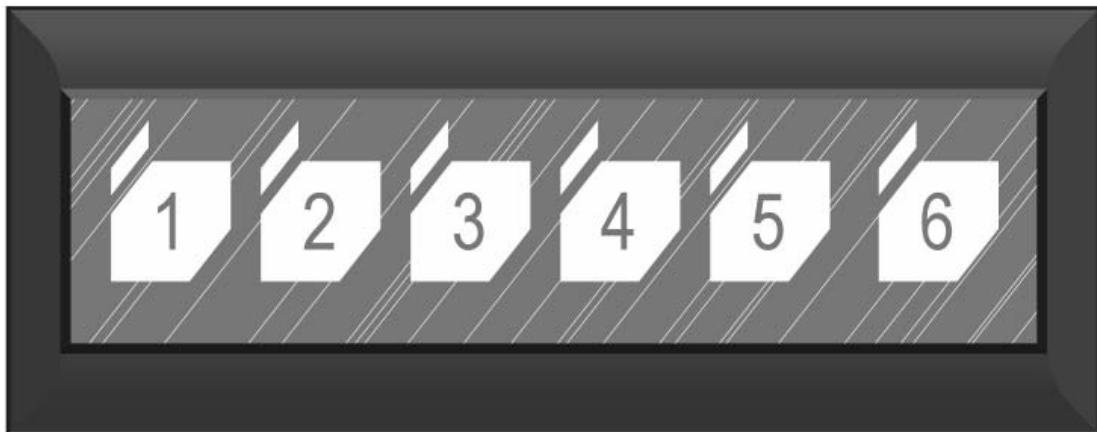

Figure 1
If all the LEDs on the keypad are illuminated, the automatic coffee machine is on standby (i.e. nothing is being dispensed). On pressing one of the four portion buttons (Figure 1, buttons Nos. 1 - 4), both the output valve and the pump are energised. The LED corresponding to the portion selected is illuminated throughout the entire dispensing period. The portion selected is displayed on the LCD. Dispensing is automatically stopped once the pre-defined quantity has been supplied, or the process can be interrupted manually by pressing any of the portioning buttons (Figure 1) of the particular station.
If the automatic coffee machine is on standby, the unportioned dispensing of coffee can be started by pressing button No. 5 (Figure 1). The LED on the relevant button is illuminated for the entire dispensing period.
Tea can be dispensed starting from standby mode or simultaneously with the dispensing of a portion of coffee. The time period over which the electric valve is active is programmable. Throughout the entire tea dispensing process, the LED of the relevant button is illuminated. Dispensing can be stopped at any time by pressing the Tea button (Figure 1, button No. 6) on the dispensing station. If the automatic machine has been programmed to have two tea dispensers, one dispensing device is controlled via the keypad of the first station and the other via the keypad of the second or third station.
You can clean the coffee stations by using the cleaning cycle. This can take place individually for all the stations on the machine. To switch on the cleaning cycle for one of the stations on the machine, all you need to do is press buttons Nos. 1 and 5 (Figure 1) simultaneously on the appropriate keypad whilst the station is in standby mode. The electric valve of the selected station and the pump will be switched on simultaneously and 5 cycles will be run (7 seconds on, 3 seconds off). Station cleaning can be interrupted at any time by pressing any button (Figure 1) of the station being cleaned.
To call up the menu displaying quantity dispensed/litres, you must press button No. 5 (Figure 1) on the keypad of station 1 for at least 10 seconds. In the mode to display quantity dispensed/litres, the following functions are assigned to the buttons on station 1:
2. Simultaneously press buttons Nos. 3 and 4 (Figure 1) for station 1 and hold them down for at least 3 seconds.
As soon as the value of litres counted has reached the maximum filter capacity, it is indicated on the LCD display that the water filter should be changed. To reset the litre counter of the filter monitoring device to zero, you must press buttons Nos. 3 and 4 (Figure 1) of station 1 simultaneously. You will see that the litre counter has been reset to zero on the LCD display. Then the machine switches to standby mode and the filter change display disappears.
Using Programming mode, you can save various quantities for coffee portions. In order to switch to Programming mode, button No. 5 (Figure 1) of one of the keypads on the machine must be held down for at least 5 seconds. The changeover to Programming mode is displayed by the lighting up of all LEDs on the keypad, by the message „Programming“ on the LCD display and the flashing of the LED (of all available keypads, if programming has been carried out using the keypad of station 1) of button No. 5 (Figure 1) on the station being programmed.
On pressing one of the buttons for the portioning to be programmed, the LED for the portion selected remains illuminated, as does the programming LED of button No. 5 (Figure 1). On programming the coffee quantities, the electric valve for the station and the pump are activated. On programming the tea quantity, only the electric valve for tea is activated. On reaching the required quantity, one of the „Coffee“ buttons of the station being programmed is pressed. Dispensing is discontinued, in that the pump and electric valve for the station are deactivated. The number of pulses of the volumetric meter is saved, the LED of the programmed quantity is extinguished and the other LEDs remain illuminated. When programming the tea quantity, on reaching the required quantity, the Tea button of the station being programmed is pressed, which means dispensing is discontinued and the electric valve is deactivated. The LED appropriate to the programmed tea quantity is extinguished and the remaining LEDs stay illuminated. The LEDs relevant to the quantities already programmed remain extinguished, in case you want to switch to Programming mode. In any event, reprogramming is possible. This is not the case if you have switched to Programming mode after dosing has been carried out.
As long as the „pre-infusion“ function is active, it is activated by the dosage just programmed, so you have to wait until this has finished before dispensing is stopped. To quit portion programming before the time-out expires, all you need to do is press button No. 5 (Figure 1) of the station on which programming is being performed.
In Service Programming mode, several parameters or special functions can be changed. It is only possible to call up Service Programming mode and its associated operations from the keypad of station 1. This mode is called up by simultaneously pressing buttons Nos. 1 and 5 (Figure 1) and holding them down for at least 3 seconds. The LEDs belonging to the buttons that can be used (LEDs of buttons Nos. 1, 2 and 5 [Figure 1]) are illuminated throughout the entire duration of programming, the LED of button 3 (Figure 1) only during modification of the „User name“.
Service Programming mode ends with the activation/deactivation option of the pre-infusion function. If you press button No. 5 (Figure 1) once more, the system goes into standby mode and closes Service Programming mode.
If you press buttons Nos. 4 and 5 (Figure 1) of station 1 during start-up of the control system, the saved parameters are reset (in other words, the parameters are put back to the original factory settings). By doing this, the factory settings for beverage quantities are reset and all the meters for quantities to be dispensed and water consumption are set to zero.
After pressing buttons Nos. 4 and 5 (Figure 1) of station 1, a message appears on the LCD display stating that the card parameters are being reset. Then the machine is put into "Off" status, which means the LEDs on all the keypads are extinguished (as long as an LCD display is provided, the status of the card is displayed as „Off“). To put the machine into normal operating mode, press button No. 5 (Figure 1) of station 1. This return to normal operating mode is shown both on the LCD display and by all the LEDs on the keypads lighting up.